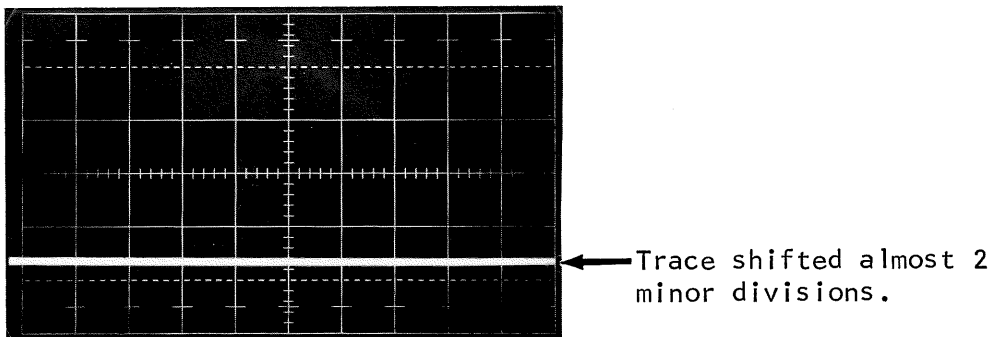

Figure 2-51
6. On the 3T77, set the TRIGGER SENSITIVITY control full CCW. (Sweep is shut down and no input signal is applied to the memory circuit). Check for 4 divisions or less of trace shift in 10 seconds. See Figure 2-51.